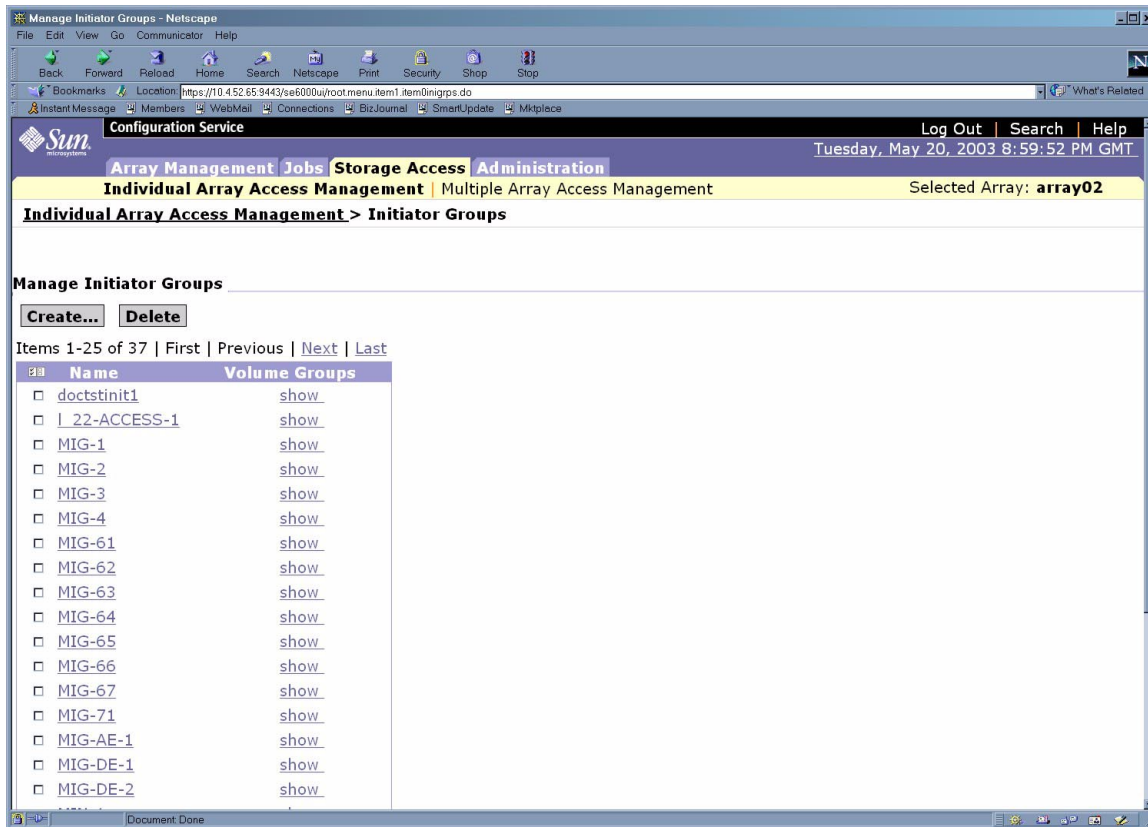

FIGURE 6-27 Individual Array Access Management—Manage Initiator Groups Page
6. Select an array in which to create an initiator group and select **Manage Initiator Groups**. The **Individual Array Access Management** page is displayed as shown in **FIGURE 6-27**.